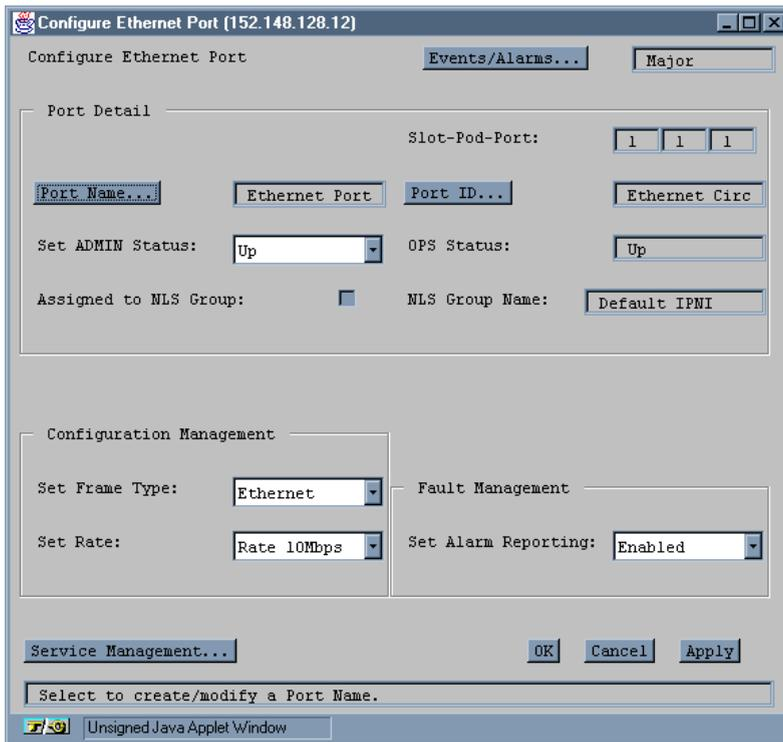

Figure 4-3. Configure Ethernet Port Window
1. Select the desired Ethernet port from the Interface Management window, as described in “Selecting a Port” on page 4-3. The Configure Ethernet Port window appears (see Figure 4-3).